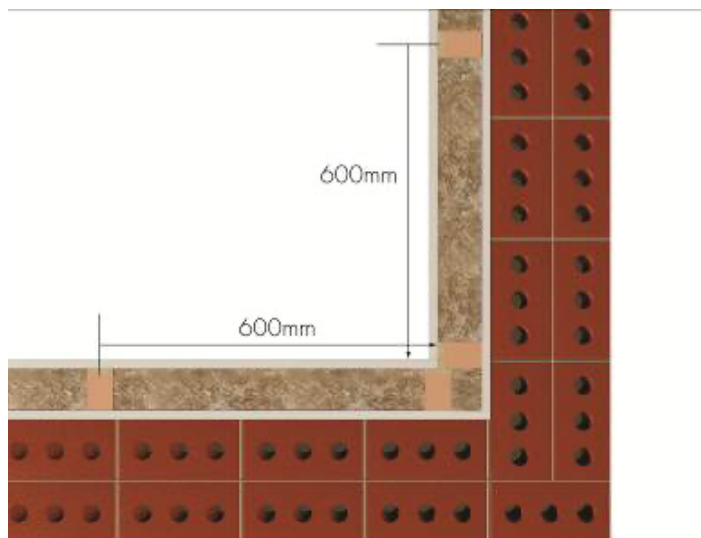

Fig 1
6.1 Internal corners should be installed in accordance with the detail below (Fig 1) and the corner void fully filled with SWIP Batt. The centre of the studs adjacent to the corner studs should be adjusted to accommodate the corner detail.